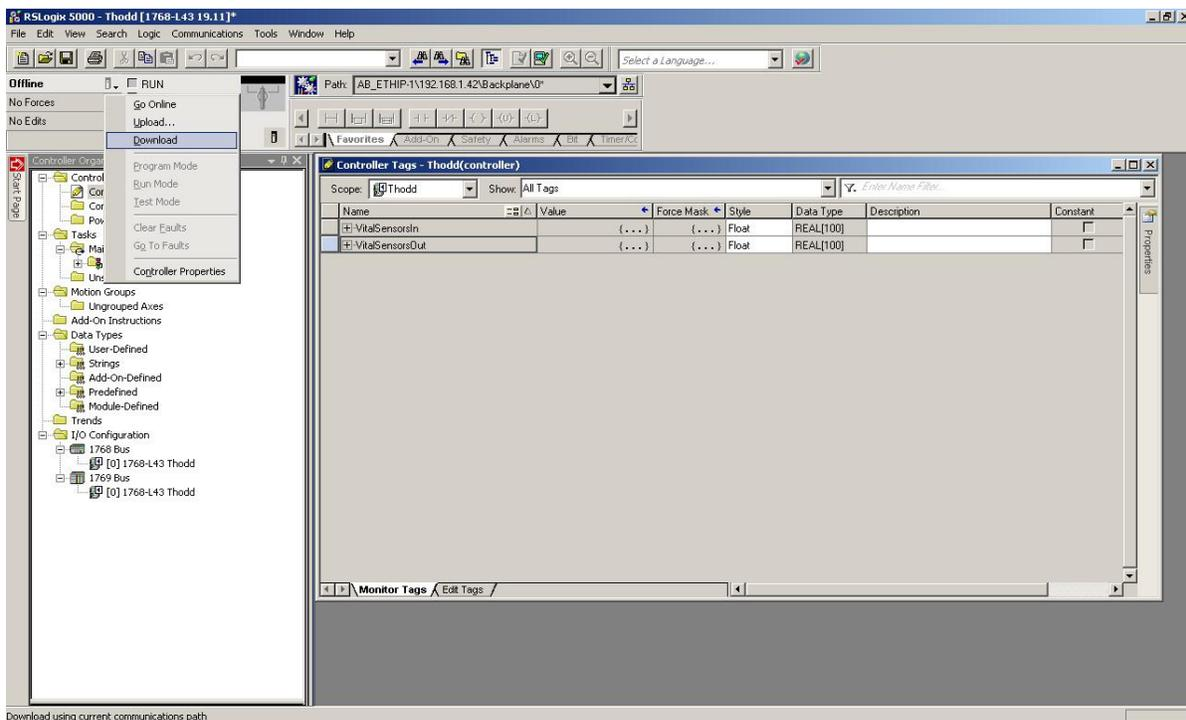

Fig. 9
9. Download new tag setup into PLC. See Fig. 9 below